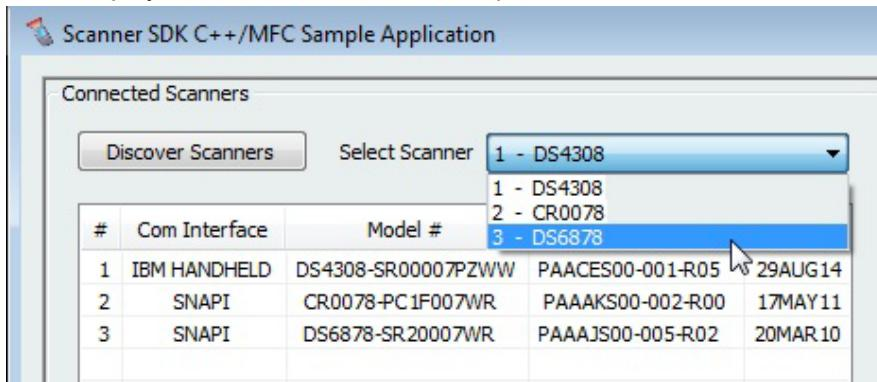

Figure 4-6 Scanner Selection
2. Select a "SNAPI" or "OPOS/IBM OPOS" mode scanner ID from the Select Scanner drop-down box. Your selection is reflected in the *Connected Scanners* window (see Figure 4-6 on page 4-12).